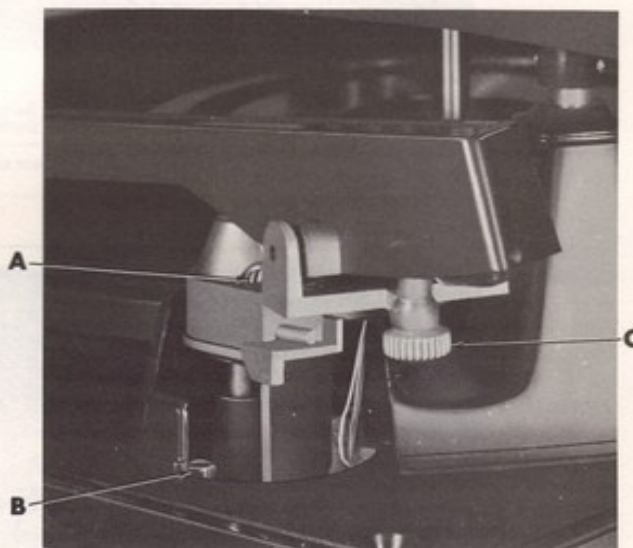

Figure 1 - Tone Arm & Stylus Pressure Adjustments
Coupling (105). See adjustment "A" (Figure 1). Rotate the screw clockwise to set the Tone Arm down closer to the record's edge. Adjust the screw counter-clockwise to set the Tone Arm down further from the record's edge.
Tone Arm Height Adjustment Screw (96) sets the height to which the Tone Arm raises during the change cycle. As the Tone Arm swings out under the stacked records it must clear the bottom record in the stack by approximately 1/4". Make adjustment "B" (Figure 1) by rotating the screw clockwise to lower the Tone Arm and counterclockwise to raise it. Check Tone Arm tracking on a single record.
Use a suitable gram scale to measure stylus pressure. Follow the scale manufacturer's instructions. Stylus pressure is set by rotating the Stylus Pressure Adjustment Screw (3-4J). See adjustment "C" (Figure 1). Correct stylus pressure is between 3 and 3 1/4 grams.